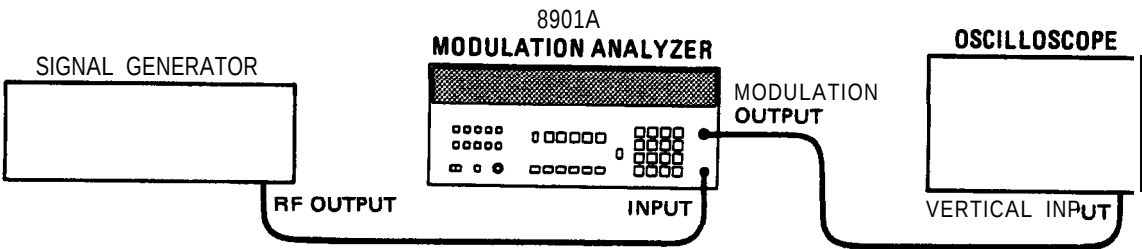

Figure 3-7. Basic Functional Checks Setup
5. Connect the equipment as shown in figure 3-7.